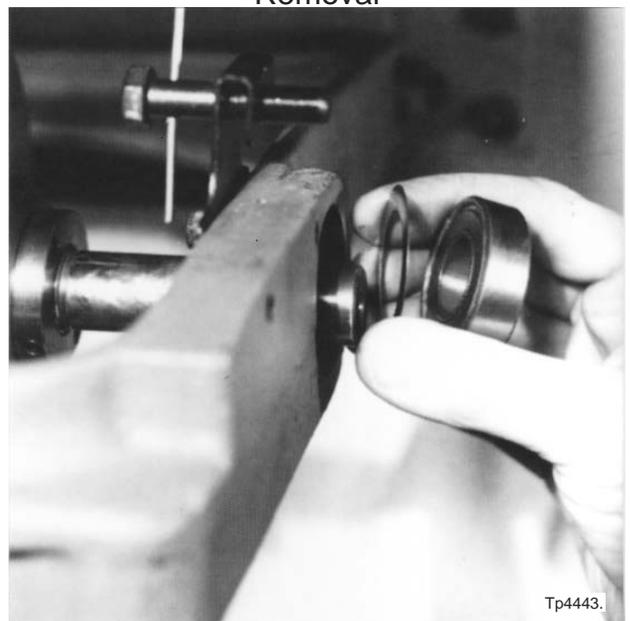

Figure 3.37 - Countershaft Bearing and Spacer Removal
20. Remove the bearing and spacer from the right side of the pulley hanger assembly, as shown in Figure 3.37 .
3. Install the spacer and bearing in the right side of the pulley hanger, as shown in Figure 3.37 .